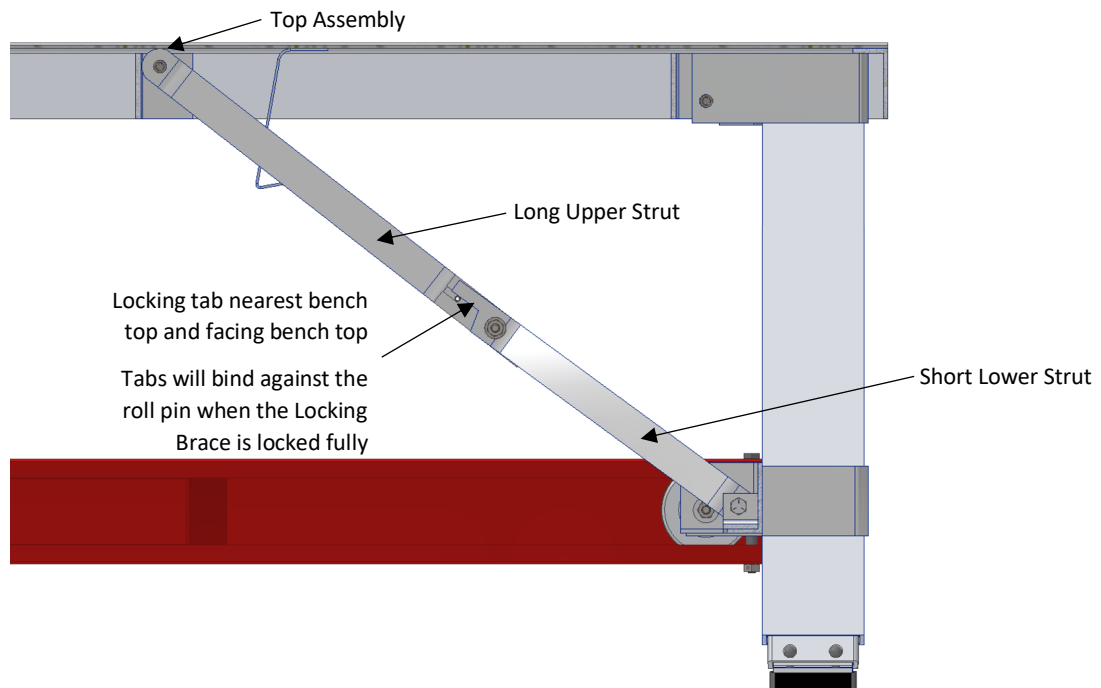

Figure 5
**WARNING:** IF THE LOCKING BRACE ASSEMBLY ISN'T PROPERLY ORIENTED BEFORE STARTING THE INSTALLATION PROCESS IT IS POSSIBLE TO INSTALL THE LOCKING BRACE UPSIDE DOWN. CAREFULLY REVIEW Figure 5 BEFORE STARTING INSTALLATION PROCESS.
1. Orient the Locking Brace Assembly as indicated in Figure 5.